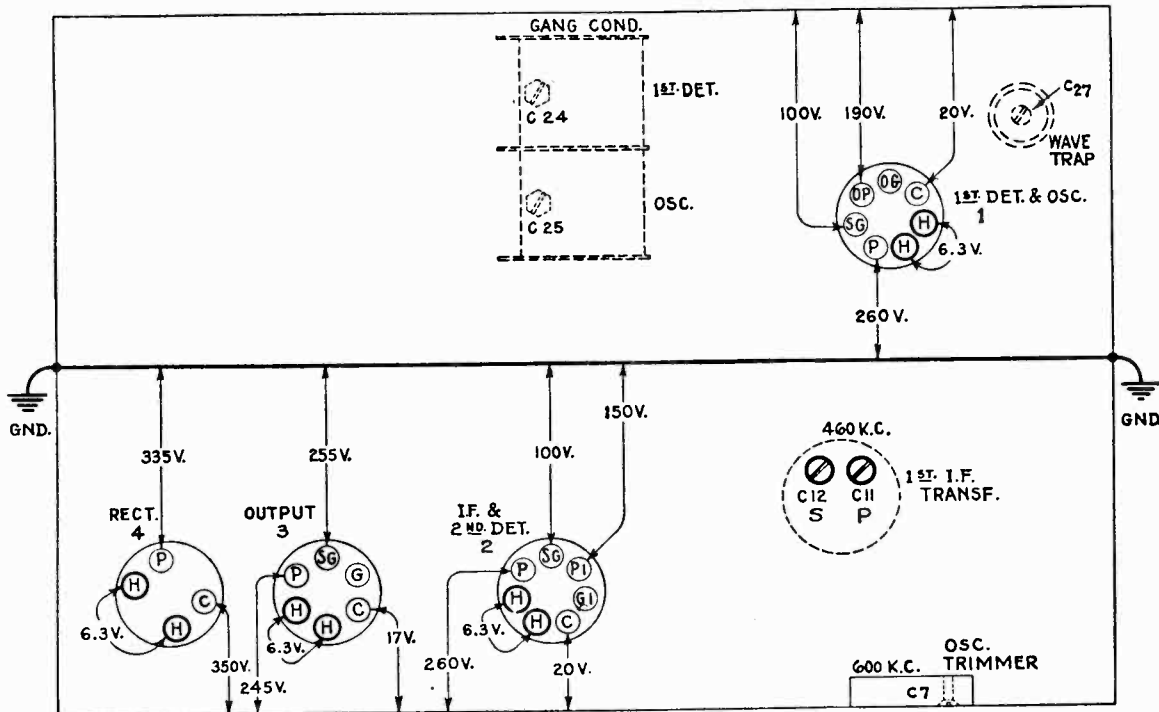

Figure 3—Trimmer Locations and Radiotron Socket Voltages to Chassis
Five aligning trimmers are provided, the physical locations of which are indicated on Figure 3. These trimmers are accurately adjusted during manufacturing tests and should remain in proper alignment indefinitely unless affected by abnormal conditions of temperature or humidity, or unless they have been altered for service purposes. Loss of sensitivity, improper tone quality and poor selectivity usually indicate necessity for re-alignment.
- (1) **Intermediate Frequency Amplifier**—The first i-f transformer has two trimmers identified as C-11 and C-12 on the diagram, Figure 3. Each must be tuned to 460 kc. by feeding a signal of this frequency from the Full Range Oscillator into the RCA-6A7 control grid and chassis-ground and adjusting both trimmers to the point giving maximum output. The oscillator output and the receiver volume control should be regulated so as to produce a sensitive indication on the receiver output indicator. If interference is noticed from strong local stations during these adjustments, the station selector should be tuned to a point at which they will be subdued.
- (2) **Detector and Oscillator**—A total of three adjustments are necessary on the detector and oscillator coil systems. Two of these are to be made at 1720 kc. and the other at 600 kc. The 1720 kc. trimmers are mounted on the variable tuning condenser and are accessible from the top of the chassis. The 600 kc. trimmer, which is associated with the oscillator system, is located on the rear apron of the chassis as shown by Figure 3. To align these